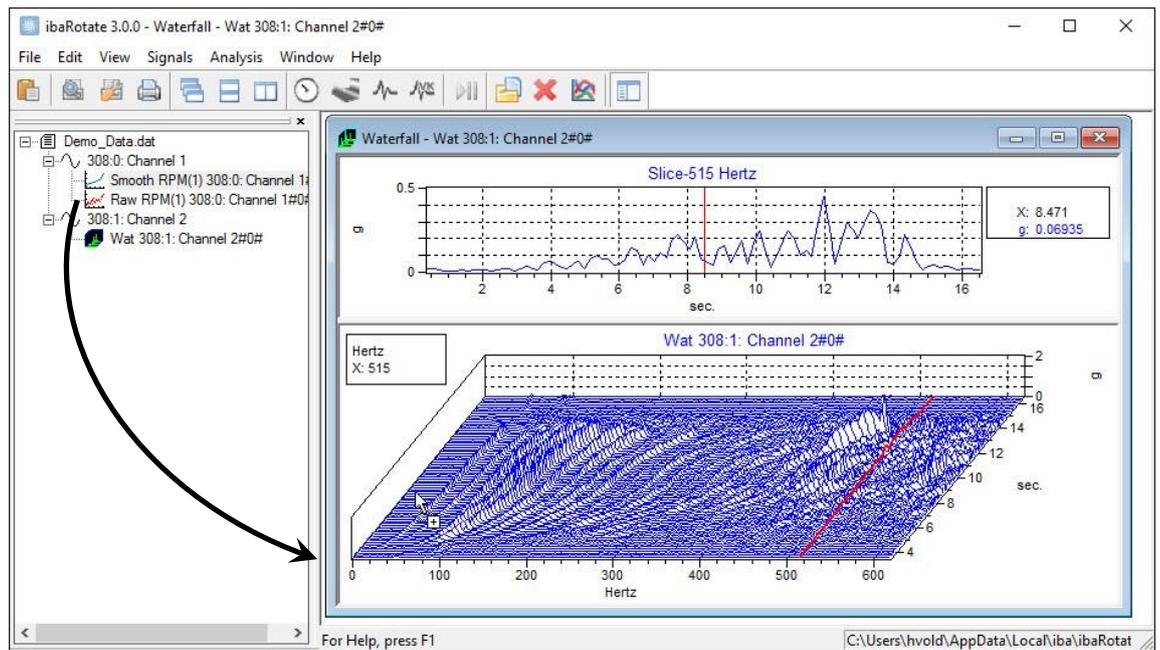

Figure 20: Slide the “Smooth RPM” from signal list to Waterfall to add Speed data to the Waterfall
2. Left-click on the “smoothed RPM Channel 1” in the signal list, and drag the cursor over to the waterfall and release (see Figure 20). The smoothed speed profile has been added to the waterfall, so now the waterfall can be plotted in the order domain.